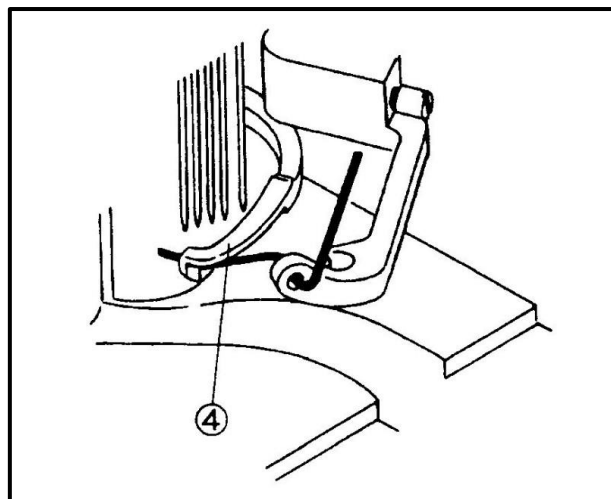

Fig.45
The moment the top cover thread is hooked with the top cover thread hook ④ (Fig. 45), the thread is held at the point 0-1.0 mm apart from the top of the take-up ⑤. Loosen the screws ⑥ to adjust it. (Fig.44)